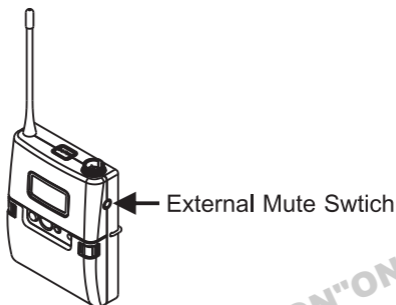

Fig. 16
6. External Mute Switch connector, Fig. 16: